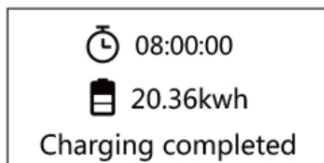

Figure 5
4. When recharging is complete, the LED will be steady green and the Figure 5 screen will show the recharging statistics.